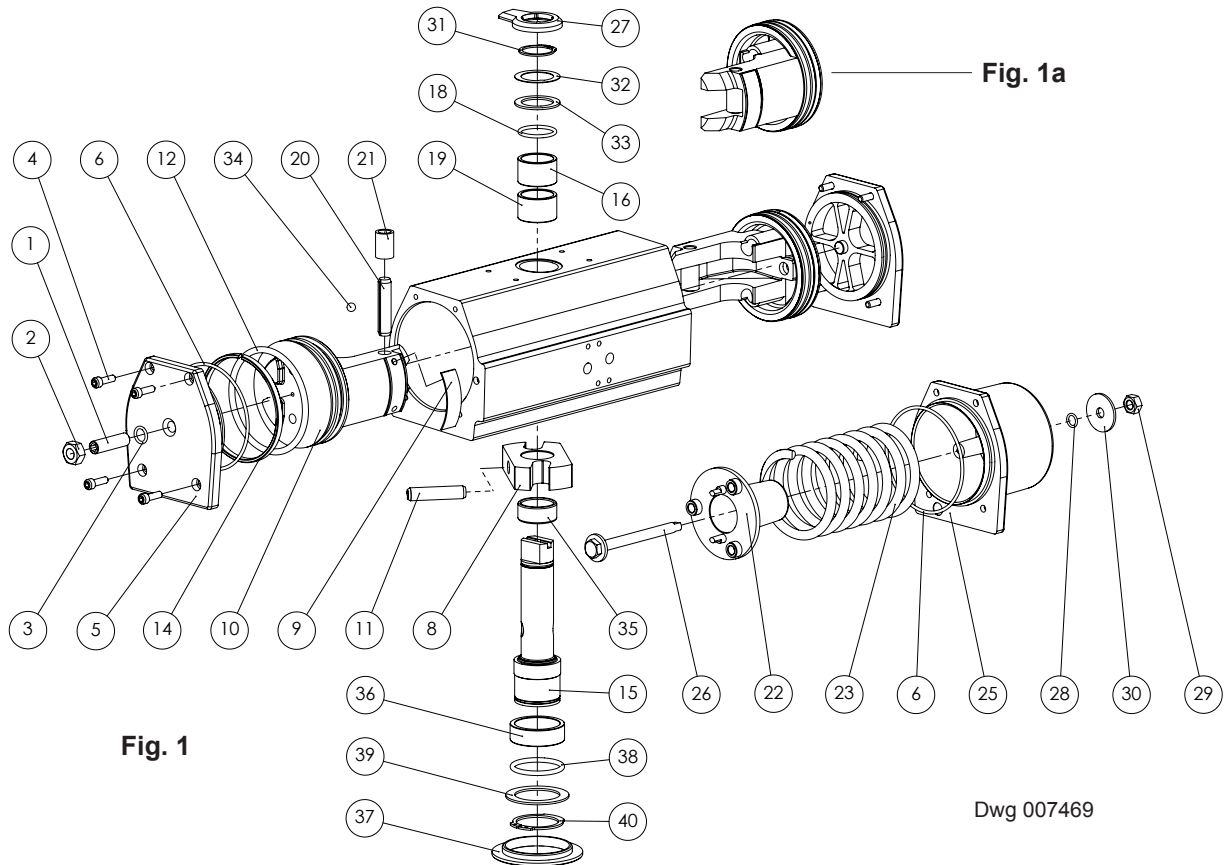

Fig. 1
The Scotch Yoke of the RC200 actuators has canted slots. Thus the actuator can be given different function depending on how the pistons are mounted in the actuator. The pistons are mounted according to Fig.1, page 2, or Fig.1a, in order to achieve the following functions.
According to Fig. 1:
4. Mount the pistons according to figure 1 on page 2.